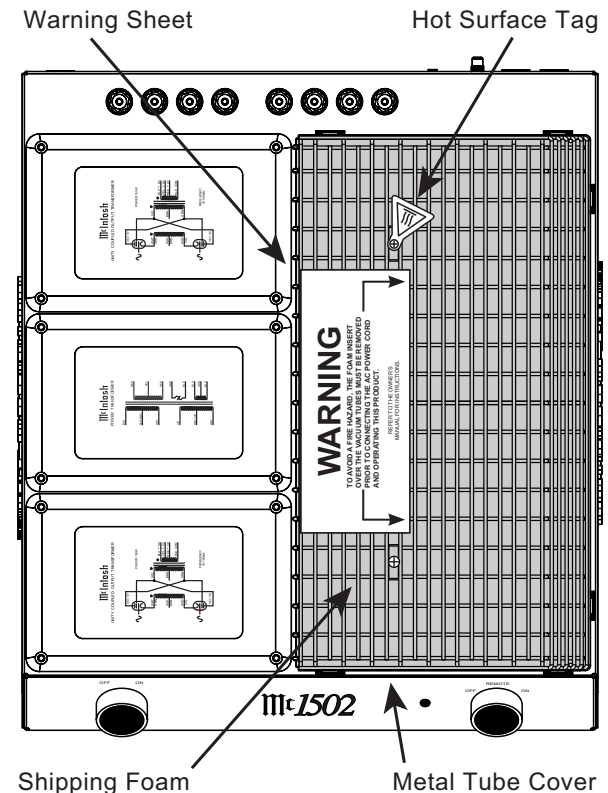

Figure 1A
1. Orient the MC1502 so the Front Side of the Power Amplifier is facing you and remove the Warning Sheet. Refer to figure 1A.